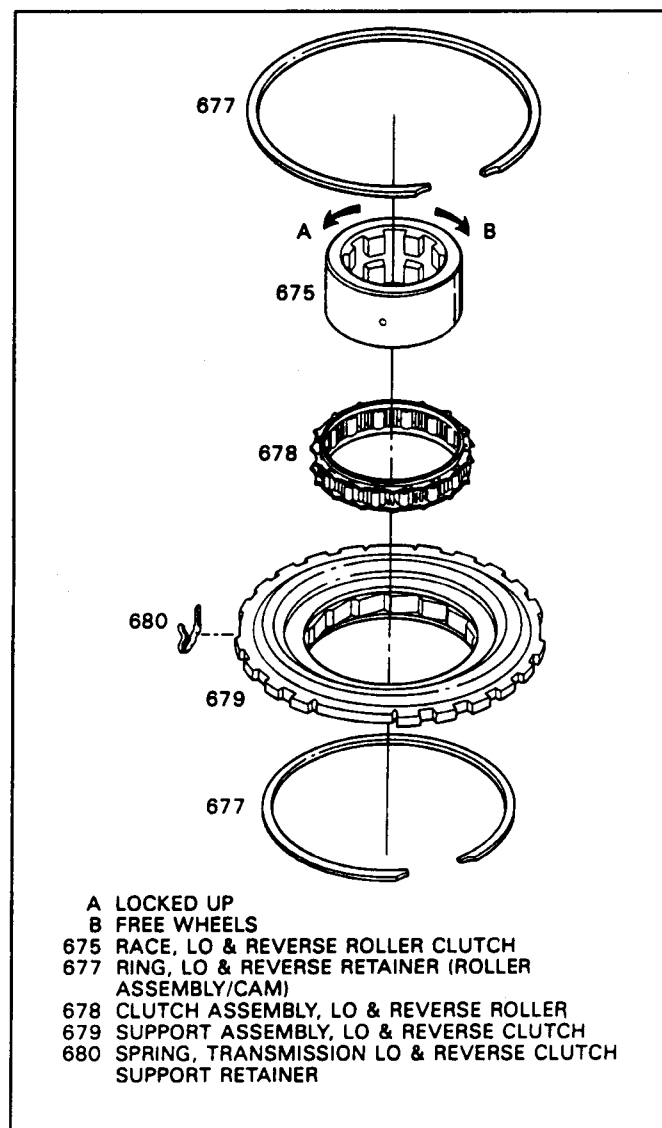

Figure 93
2. Install low roller clutch assembly into support and install snap rings (677), as shown in Figure 93.
3. Install low roller clutch inner race into low roller clutch by rotating clockwise into position (Figure 93).